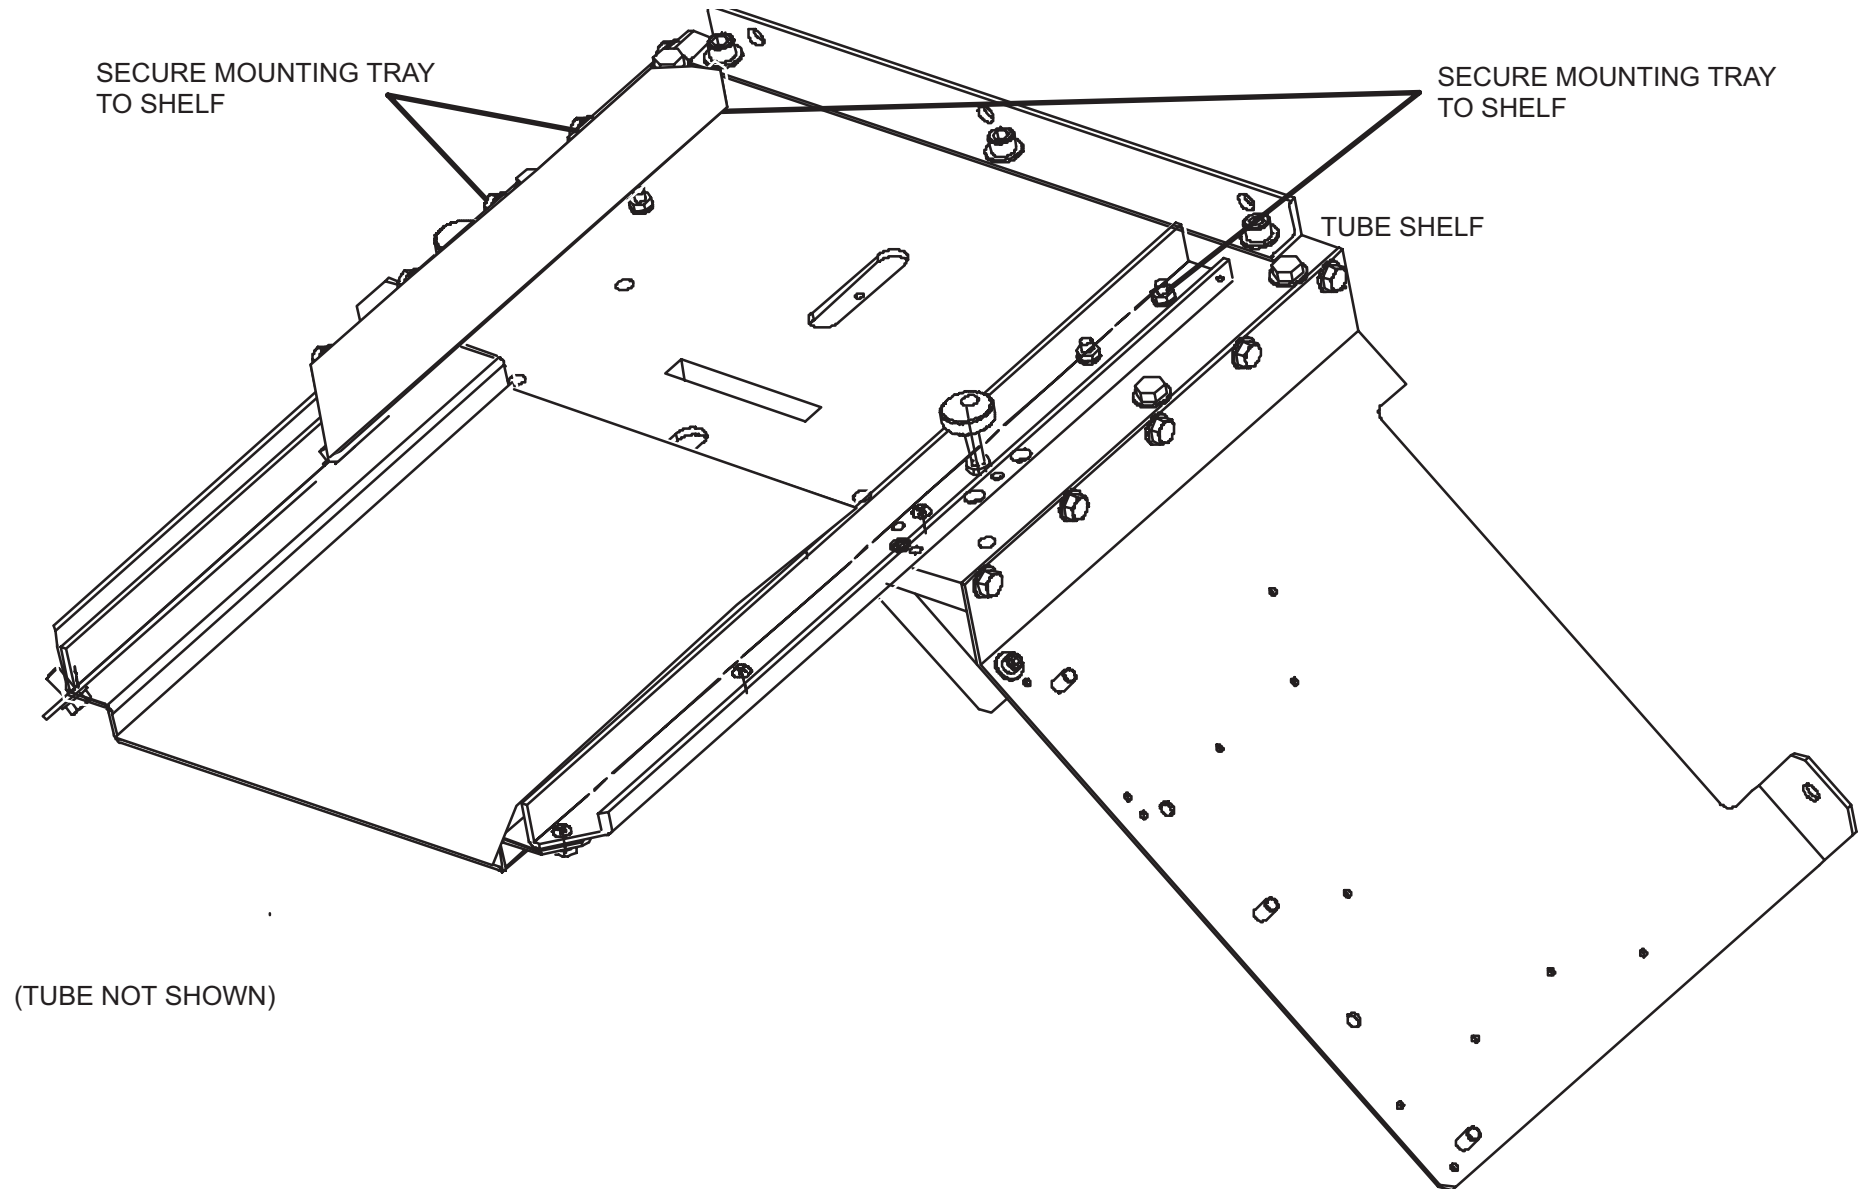

FIGURE 251 XRAY TUBE MOUNTING TRAY ON TUBE SHELF
6. Install the tube mounting tray in front of the xray tube and secure with the appropriate bolts. Refer to Figure 251.